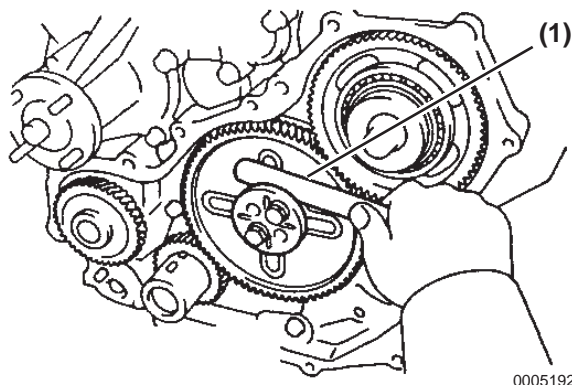

Figure 5-192
13. Measure the thrust clearance of the idler gear using a feeler gauge (**Figure 5-192, (1)**).